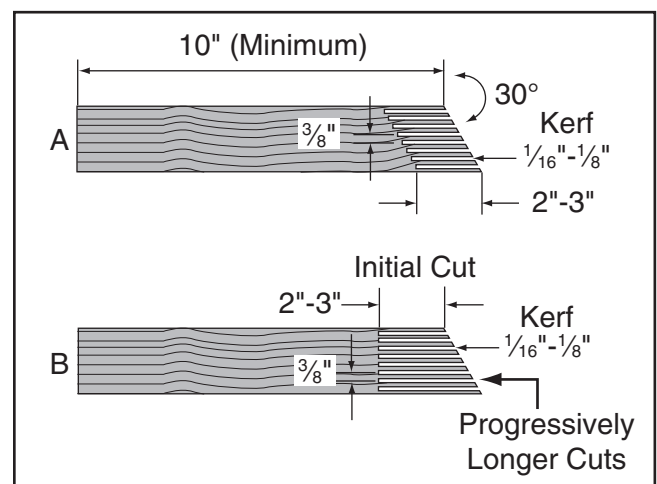

Figure 76. Patterns for featherboards (top view shown).
3. Make a series of end cuts with the grain $\frac{3}{8}$ "- $\frac{1}{4}$ " apart and 2"-3" long, as shown in **Figure 76 (A)**. Alternatively, start cuts at 2"-3" deep, then make them progressively deeper, as shown in **Figure 76 (B)**.